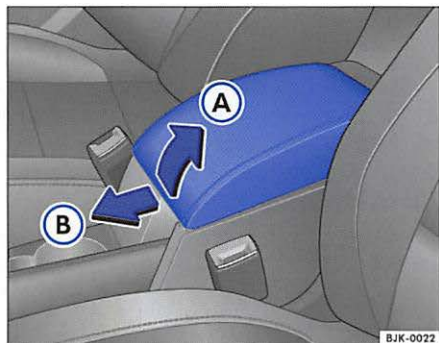

Fig. 48 Front center armrest
- Lift the armrest in the direction of the arrow ⇒fig. 48 (A) gradually until it latches into the desired position.